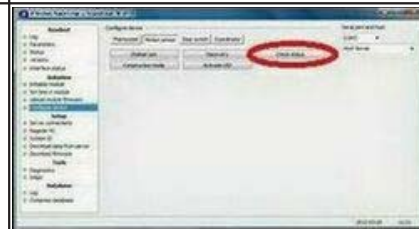

Figure 97
5. Wait a few seconds and then click the **Check status** button in the **Motion sensor** tab of **Configure device**; see Figure 97. If the device has joined successfully, the message 'Device is online' is shown. If that message is not displayed, wait a few more seconds and check the status again. If still offline, repeat the discovery process.